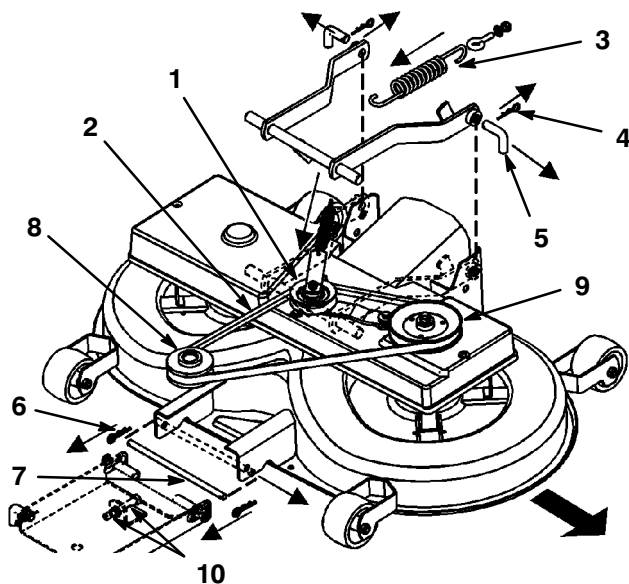

Figure 38
3. Pull the idler arm assembly in and remove the V-belt from the pulley (Fig. 38).
4. Disconnect the spring from the engagement lever (Fig. 38).
- Remove the hair pin clips from the two rear pins and remove the pins (Fig. 38). A pliers may be needed to pull the second pin out.
- Remove the hairpin clip from the front pin and remove the pin (Fig. 38).
- Remove the V-belt from the engine pulley (Fig. 38).
- Remove the V-belt pulley and idler arm assembly (Fig. 38).
2. Move the lower pin of the front adjustment suspension into the bottom position of the slotted holes by adjusting the two M12 nuts on the front suspension (Fig. 38).